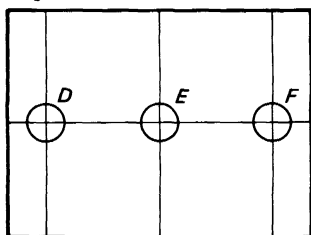

Fig. 3-59
- (9) When the red vertical lines do not coincide with the green vertical lines as shown in Fig. 3-59, repeat above steps (6) through (8).